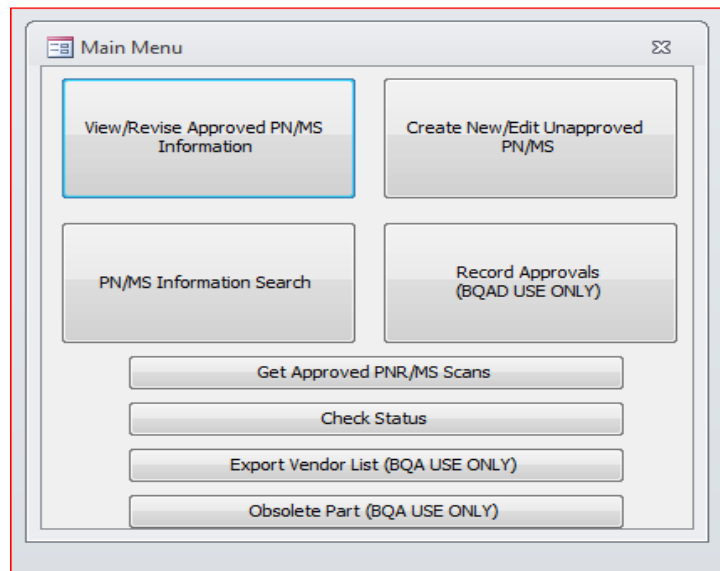

Figure 1
- 6.2 The first screen (see Figure 1 below) will have a menu with the following selection of options to choose from: "View/Revise Approved PN/MS Information," "Create New/Edit Unapproved PN/MS," "PN/MS Information Search," "Record Approvals (BQAD USE ONLY)", "Get Approved PNR/MS Scans", "Check Status", "Export Vendor List" and "Obsolete Part (BQA Use Only)".